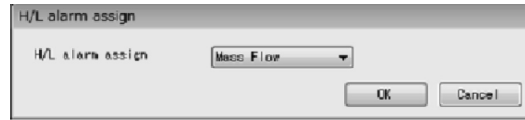

Fig.58
- ① Click the "Setup (S)" menu, and then select and click "H/L alarm assign" from the "H/L alarm" drop-down list.
- ② The following window will be displayed (Fig. 58). Set the H/L alarm assignment here.